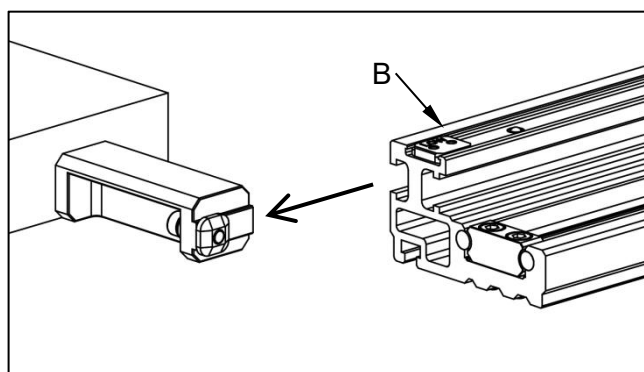

Fig. 7
2. Loosen the square nuts at the front of the mounting blocks (F), then install the Front Rail (B) by sliding it in the direction shown in Fig. 7.